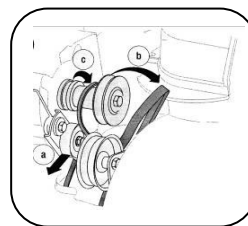

Fig.22
- c. Lift the belt off the engine pulley. See Figure 22.